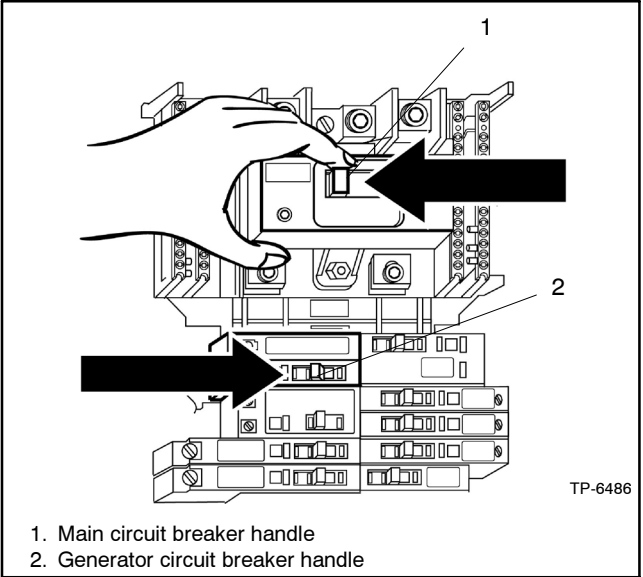

Figure 2-17 Set Main CB and Generator CB Switch Handles
4. Set the main circuit breaker handle to the OFF position and the generator set circuit breaker handle to the ON position. See Figure 2-17.